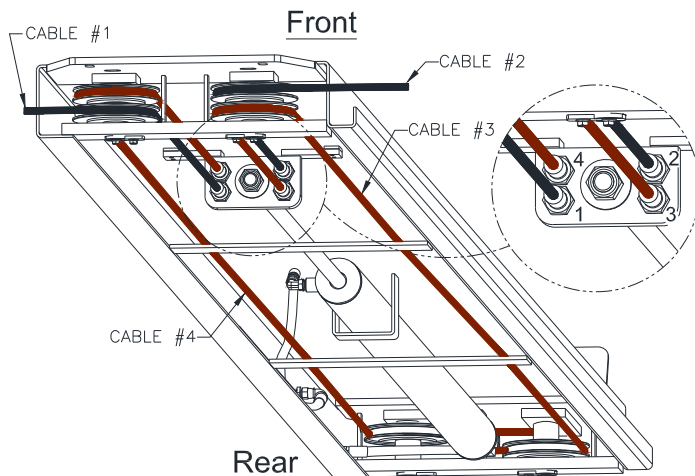
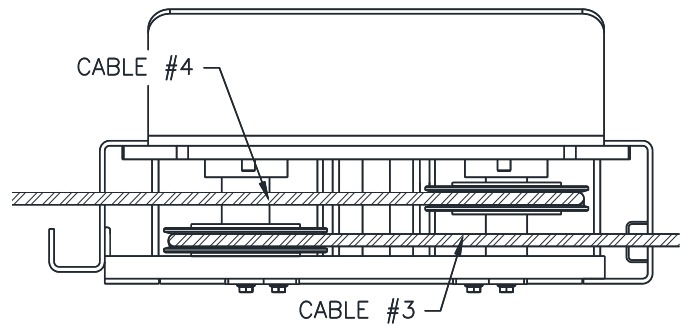

Fig 9 – Cable Layout
Fig 10 – Power Runway (Front View)
- 13) At the rear of the power runway, continue routing cables #3 & #4 to the front of the power runway sheaves, **Fig 9.**
- 14) At the front of the power runway continue routing cable #3 around the sheave and out the front drivers' side cross beam. Cable #4 should be routed around the sheave & out to the passenger side front cross beam, **Fig 9 & Fig 10. MAKE SURE THE CABLES ARE NOT TANGLED WITH THE LOCK RELEASE ROD INSIDE THE CROSSBEAM.**